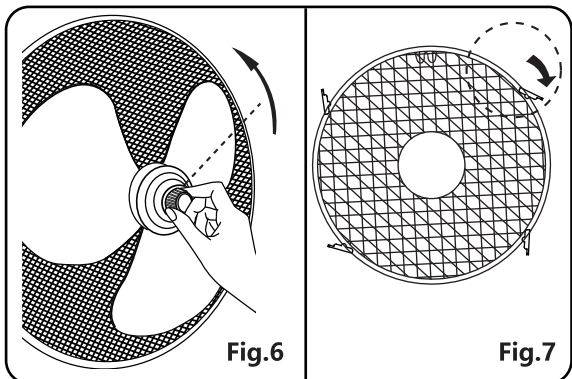

Fig.7
3. Align the front guard to the hook on the bottom of the rear guard. Fasten the front guard to the rear guard using the guard clip. Then, tighten the fan guard by locking the crew and nut.(Fig. 7)